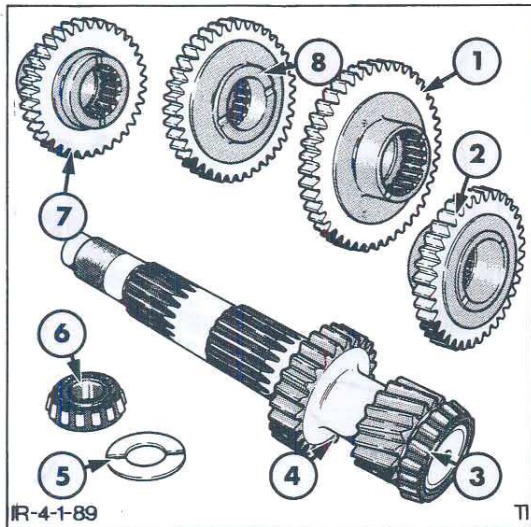

Figure 89
2. Normally, the countershaft rear bearing, Figure 89, need not be removed, however, if the bearing is worn or damaged it can be removed with a punch and hammer. If the bearing is removed, a new one must be installed as the cage will be damaged during removal.
1. Thoroughly clean the countershaft components, Figure 89, with suitable solvent, then blow dry with compressed air. Do not spin the bearings with compressed air.
With reference to Figure 89.
2. If it was necessary to remove the countershaft rear bearing, Figure 89, press a new bearing into place with the same size sleeve that was used for installing the front bearing, Step 1. Also install a new countershaft bearing cap.